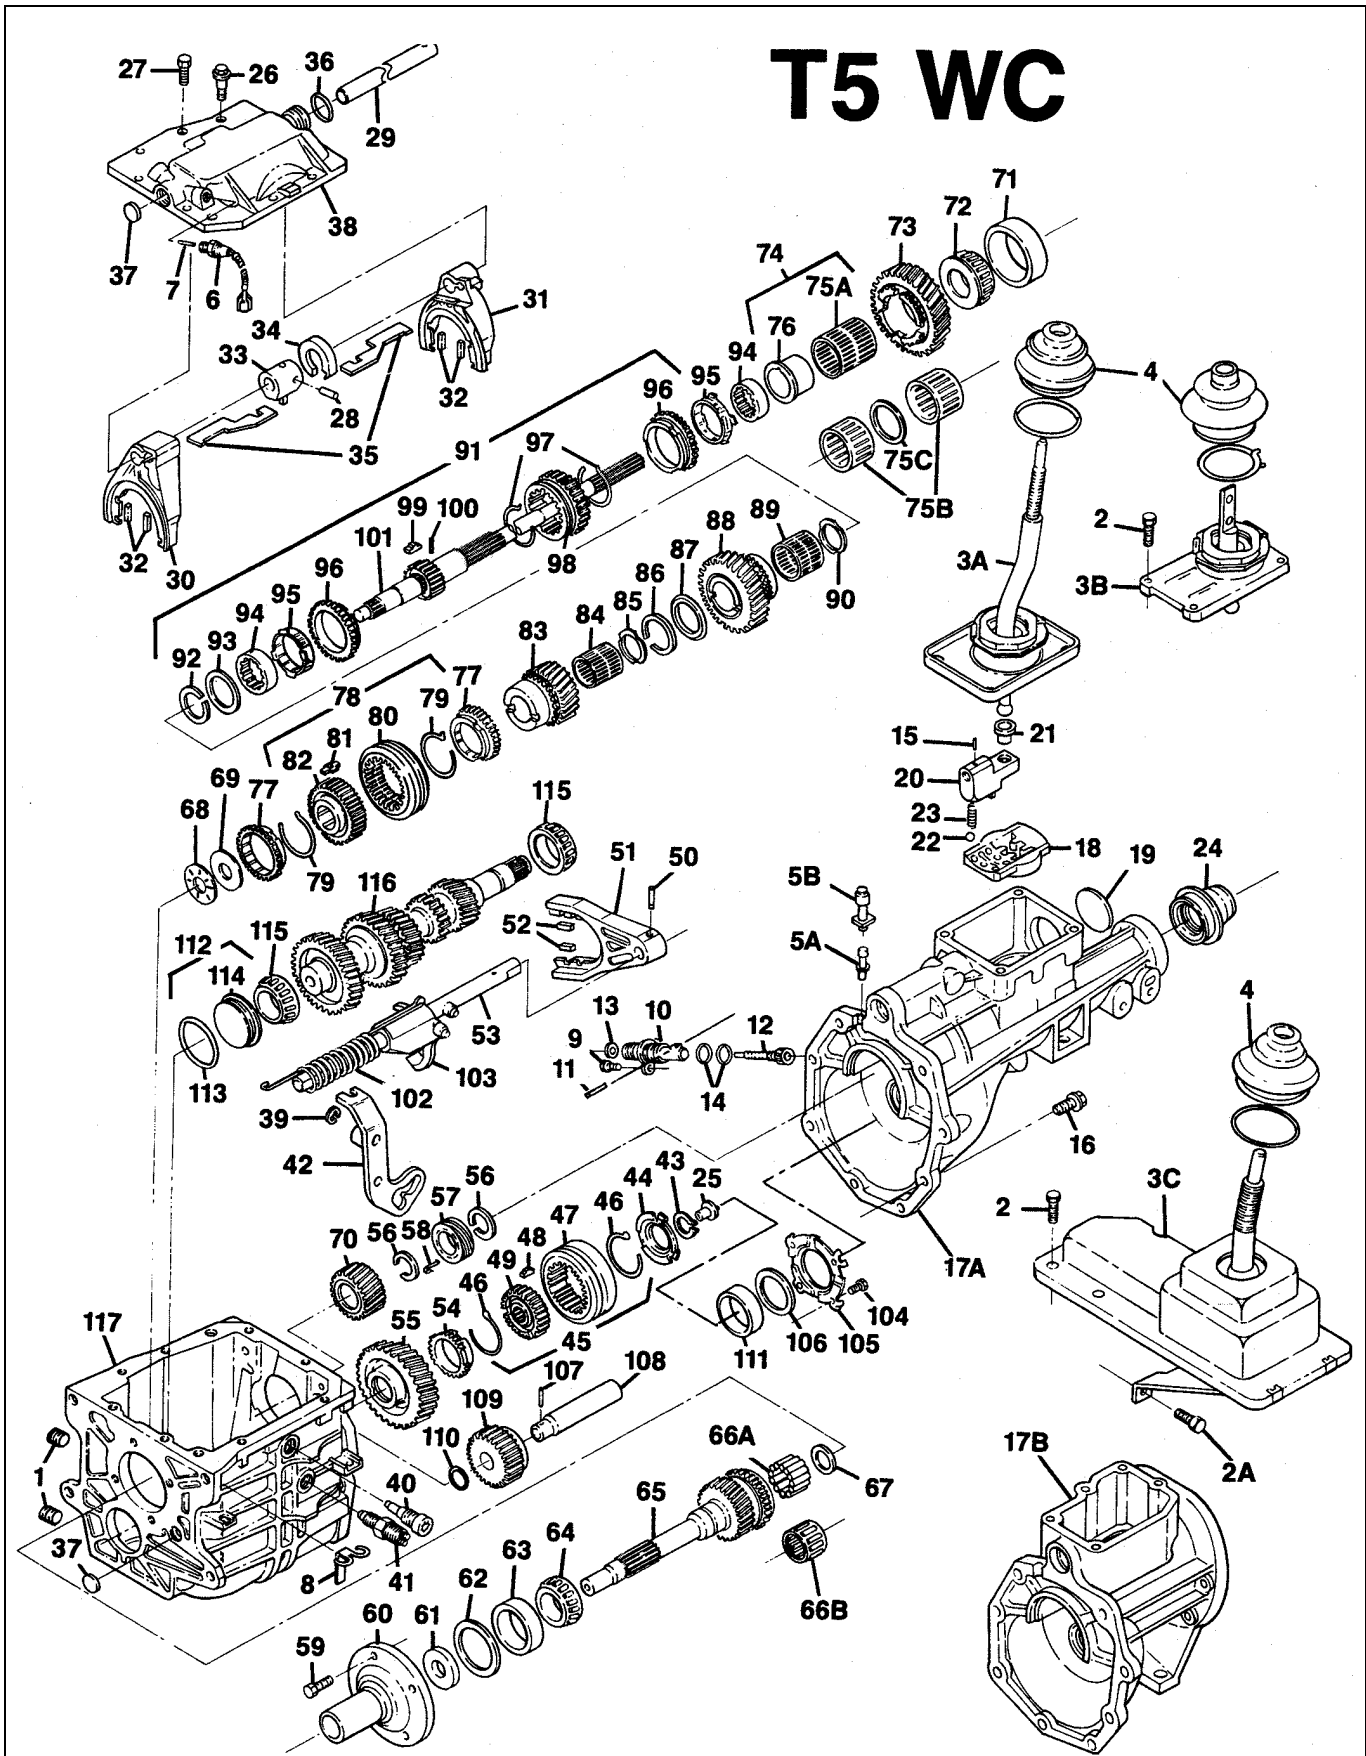

Figure 5-1. T5 WC Manual Transmission
- a. **T5 WC Anti-Friction Bearings** ( see figure 5-1):
- Bearing cone (64).
- Thrust bearing (68)
- Bearing cone (72)
- Needle bearing (84)
- 2nd speed bearing (89)
- Bearing cones (115)
**LEGEND FOR T5 WC, FIGURE 5-1**
**LEGEND FOR T5 WC, FIGURE 5-1 (CONT)**